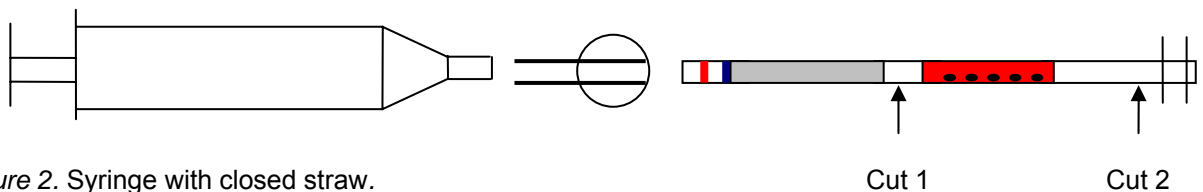

Figure 2. Syringe with closed straw.
16. Hold the straw and use a pair of scissors to cut off the plugged seal next to the plug, in the column of air, (see Figure 2, Cut 1).
18. Cut off the heat-sealed end, (see Figure 2, Cut 2). Syringe connected to straw, see Figure 3.
12. Connect the plastic connector to the syringe and the closed straw as described in figure 2.
23. Label the straw on the "column of VitroPBS™", see Figure 2.